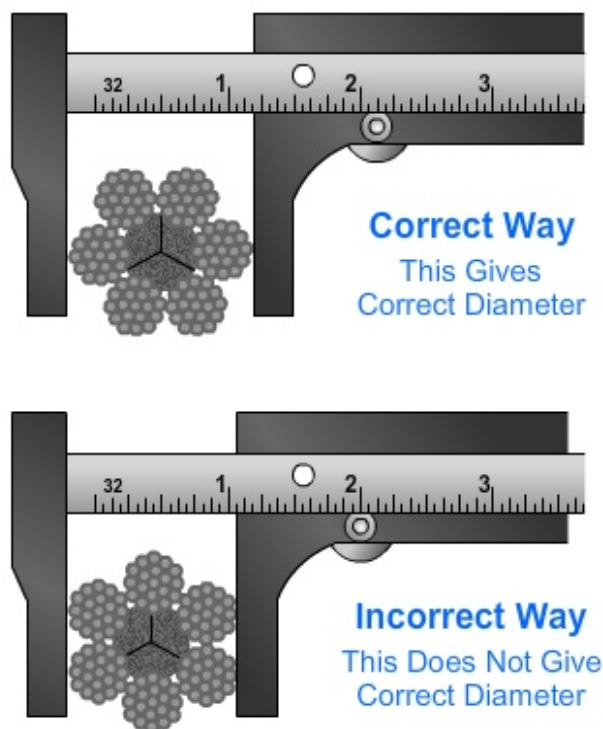

Figure 12-27 — Correct and incorrect methods of measuring wire rope.
Wire rope is designated by its diameter in inches, as shown in *Figure 12-27*. The correct method of measuring the wire rope is to measure from the top of one strand to the top of the strand directly opposite it. Measuring across two side by side strands is not correct.
- Reduction of nominal rope diameter due to loss of core support or internal or external corrosion or wear of individual outside wires. The diameter should be measured in a circumscribing circle in six or more places on the wire rope, as shown in *Figure 12-27*.